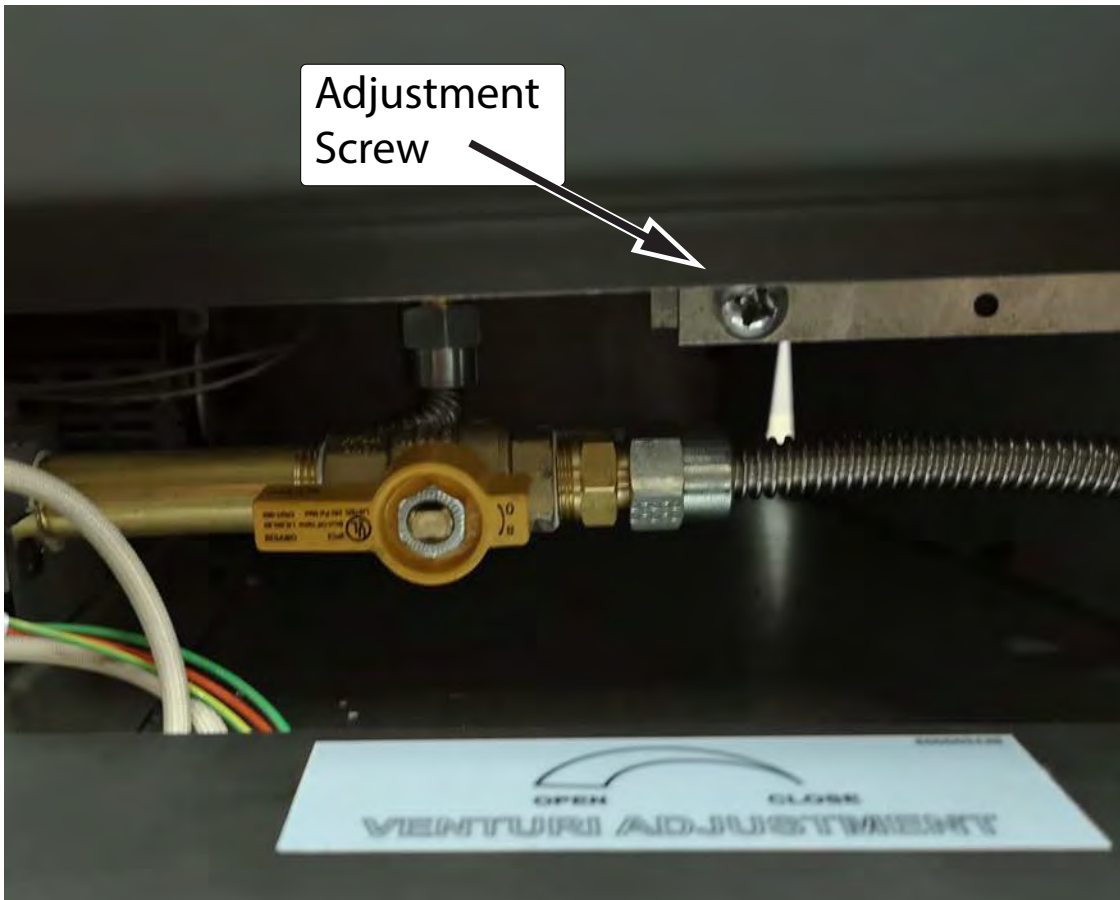

Figure 59: Z25 Venturi adjustment.
3. With the fireplace turned on, use the adjustment screw, located under the door on the right hand side (Figure 59) to adjust for flame appearance. Rotating Clockwise closes the damper and Counterclockwise will open it.